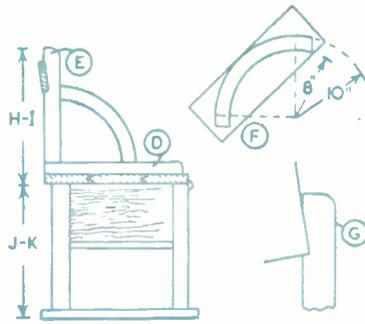

Fig. 2
Fig. 2 shows a side view of the seat. For the seat, which also acts as a lid to the
horizontal members (D), one for each end of the lid. To these the vertical members (E) are fixed with a simple halved joint. Fix with waterproof glue and nails. An important point here is the length of parts (E), which can only be given approximately as the thickness of boards does not remain constant. For instance, 1in. thick boards, bought already planed, will lose substance and prove to be about  $\frac{3}{4}$ in. The length of parts (E) should be such as to make the height of (H-I), equal to that of (J-K), in Fig. 2. This is necessary if the seat, when swung over, is to make a level table top.
At each end an arm rest is added. This, as shown in Fig. 2, is made quarter-circular in shape. The detail (F) shows how these can be marked out on a piece of 1in. board, with the radius given. Try for fitting, and allow enough each end to screw to parts (D) and (E). The portions to be screwed should be reduced to half thickness.